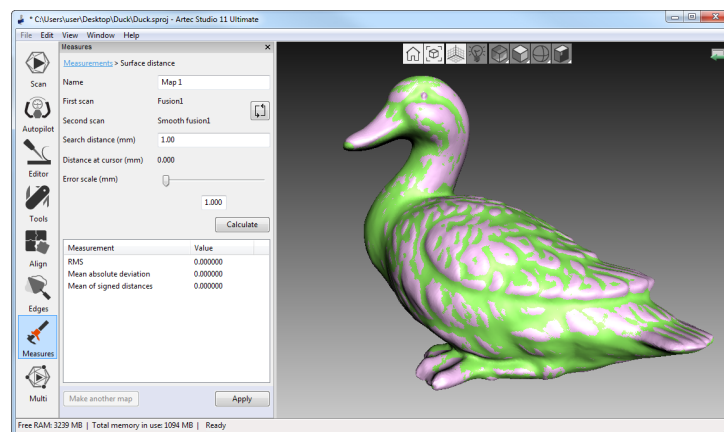

Figure 9.12.: Specifying parameters for surface-distance map calculation.
3. If necessary, specify the name of the distance map in the *Name* field of the *Measures* panel (see Figure 9.12.). By default the application creates new distance maps under the names Map 1 , Map 2 and so on.